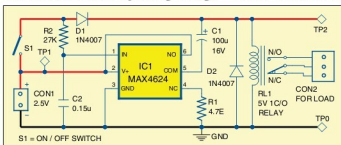

Fig. 1: Circuit diagram of the efficient 5V relay driver
Fig. 1 shows circuit diagram of the efficient 5V relay driver. The circuit is built around 1 Ω , low-voltage, single-supply SPDT (single-pole, double-throw) analogue switch MAX4624 (IC1).
of 5V. Note that the voltage required to turn a relay on (pick-up voltage) is greater than that required to keep it on (dropout voltage). The relay normally has a 3.5V pick-up voltage and a 1.5V dropout voltage, yet the circuit allows it to operate from an intermediate supply voltage of 2.5V. Table I compares the relay's power dissipation with fixed operating voltages across it, and with the Fig. 1 circuit in place.
2.5V with circuit shown in Fig. 1	Around 112mW